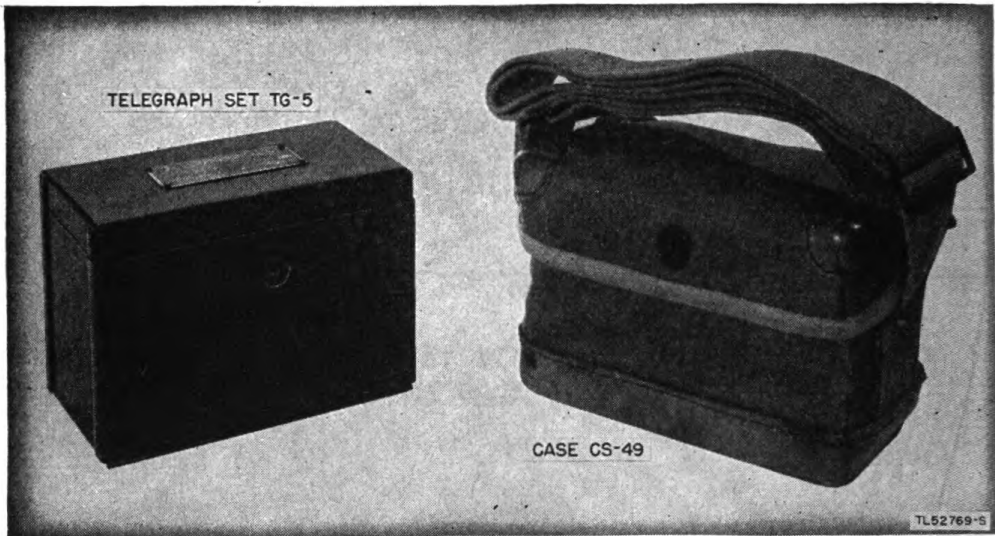

Figure 2. Telegraph Set TG-5 and Case CS-49.
a. CASE CS-49-() (fig. 2).* The case is made of heavy olive-drab canvas with leather reinforced bottom and corners. The cover is hinged at the back, overlaps the sides and front, and fastens in front with a snap fastener. Sewed to the sides of the case is an adjustable carrying strap approximately 2 inches wide and 85 inches long.